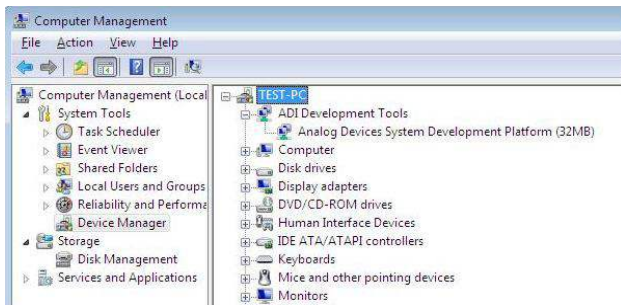

Figure 15. Device Manager: Checking That the Board Is Connected to the PC Correctly
- iii. The **Computer Management** box appears. Click **Device Manager** from the list of **System Tools** (see Figure 15).